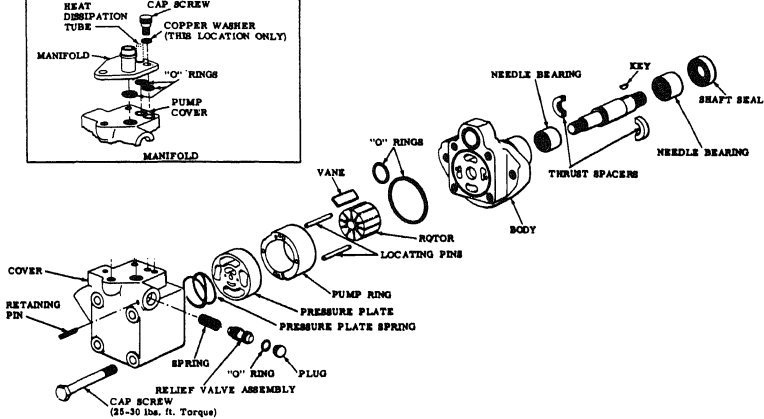

FIGURE 23
1. Immerse all parts in clean hydraulic oil to facilitate reassembly. Refer Fig. 23